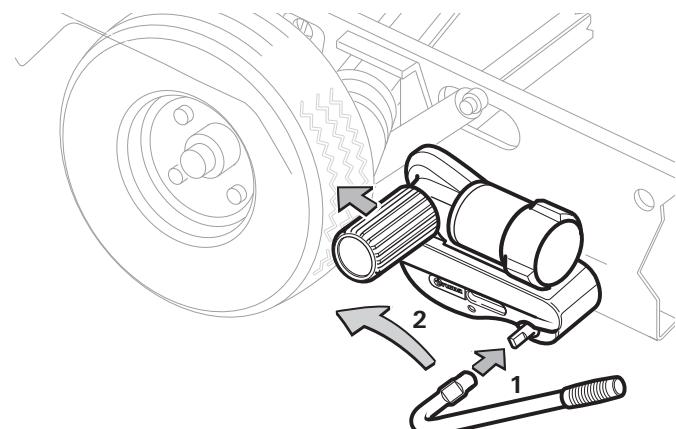
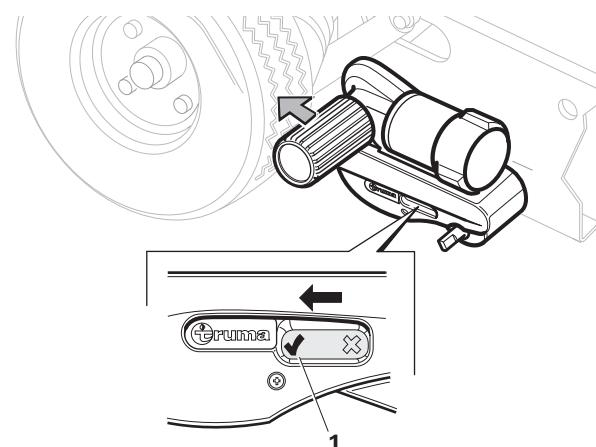

Figure 4
Figure 5
- Attach the engagement lever to the toggle crank (Figure 4 - 1).
- Turn the engagement lever in the direction of the arrow (towards the vehicle wheel) (Figure 4 - 2) until the position indicator is at "/" (Figure 5 - 1) in the housing. In the end position, the drive unit engages securely and the drive roller is pressed approx 20 mm into the tyre. This must be checked on both sides before manoeuvring.